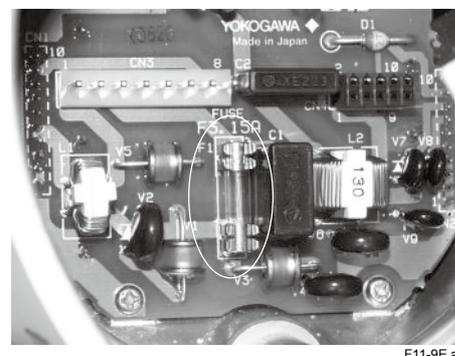

Figure 11.9 Location of Fuse
- (5) Remove the electronics completely to gain access to the fuse on the bottom of the equipment case (Figure 11.9).
- (6) Replace the fuse with a new one.